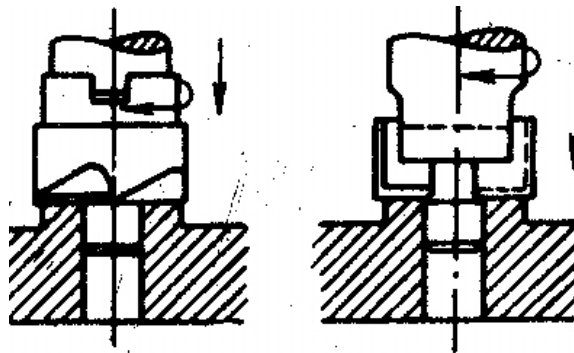

Fig. 4.2.16 Schematic view of spot facing
- Spot facing by flat end tools (Fig. 4.2.16)